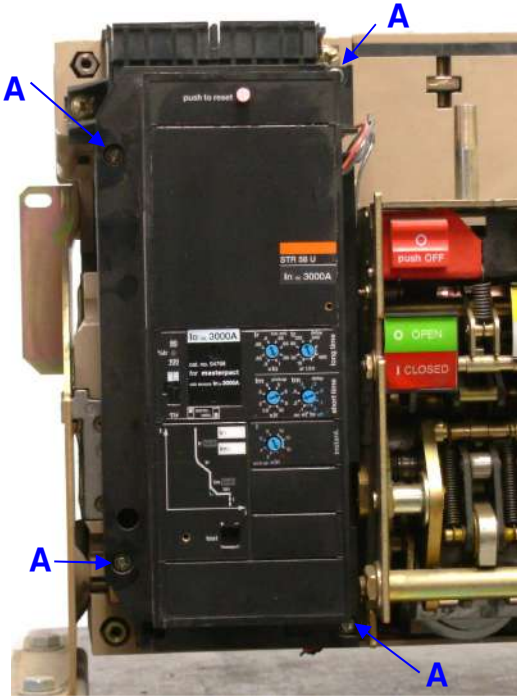

FIGURE 2, VIEW OF ORIGINAL STR-58U TRIP UNIT
3.4. Remove the *STR* control unit by removing the screws identified as *A* in figure 2. Discard original mounting hardware. If there are additional wires entering the control unit, these can be cut and the wire ends appropriately insulated.